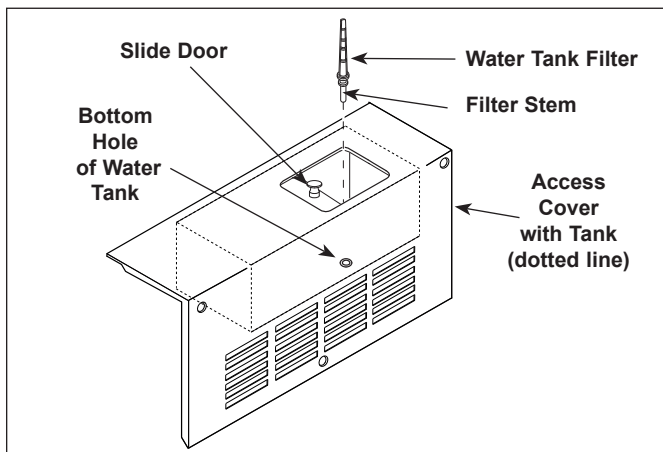

Figure 11. Water Tank Filter
2. Open the Slide Door (Figure 11).
5. Reinstall the filter stem into the bottom hole of the tank (Figure 11).